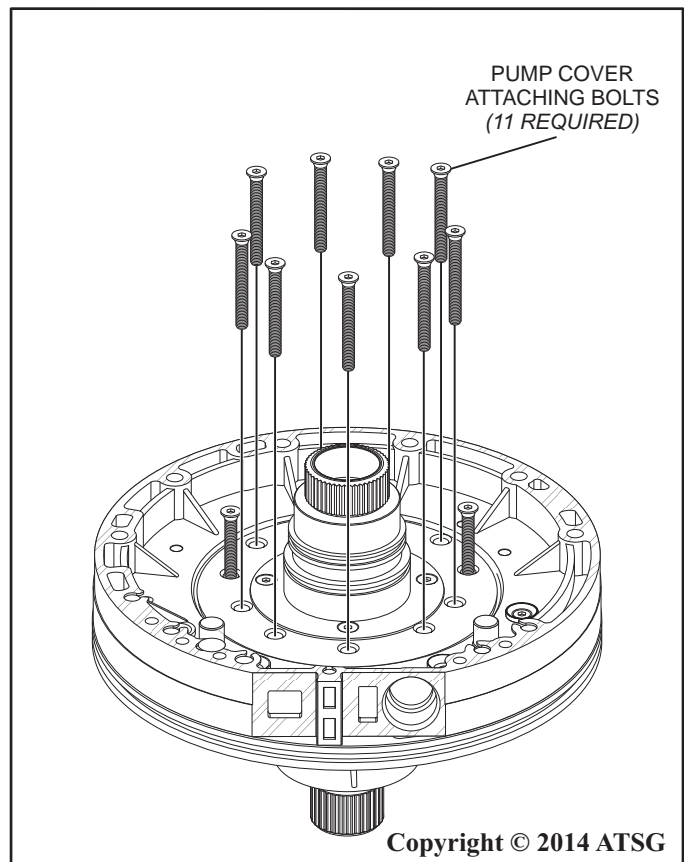

Figure 62
6. Remove the 11 oil pump cover attaching bolts as shown in Figure 62. Leave two of the bolts threaded into the pump approximately half way, this will help with removing the pump body from the pump cover.